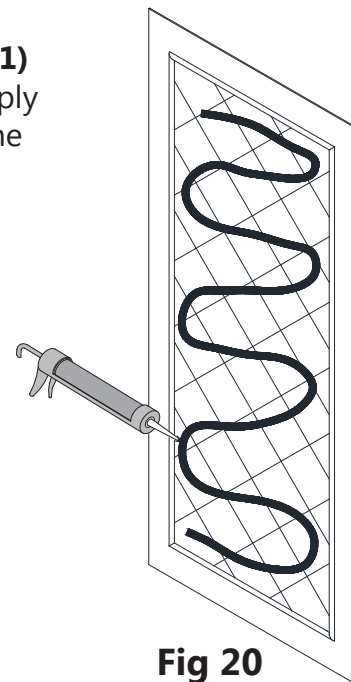

Fig 20
20. Apply adhesive to the entire back surface of the **Side Panel (#01)** for the opposite side wall installation. Use the same technique to apply pressure over the entire surface and make the top edge even with the adjacent acrylic wall panel. (**Fig 20**)